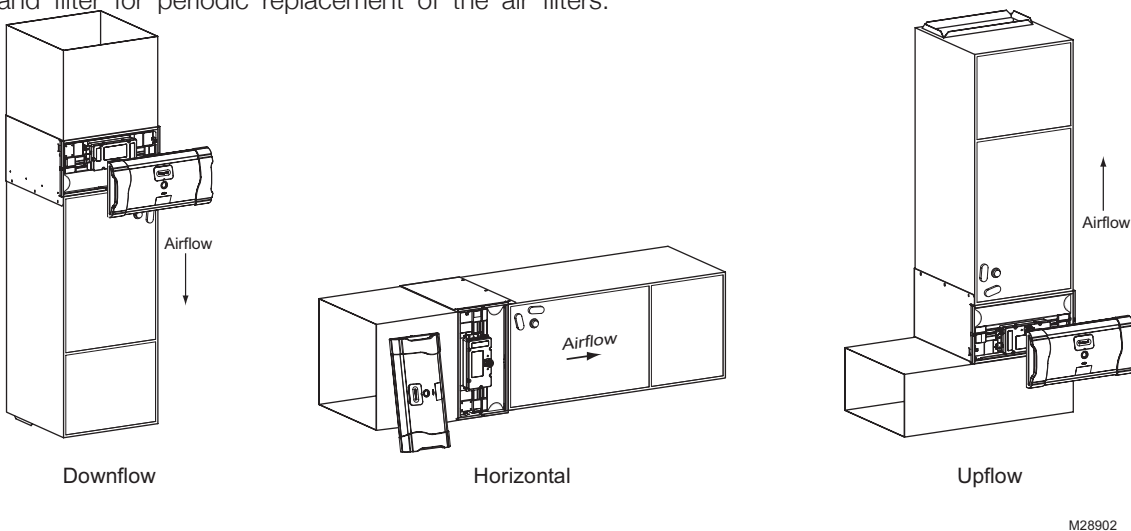
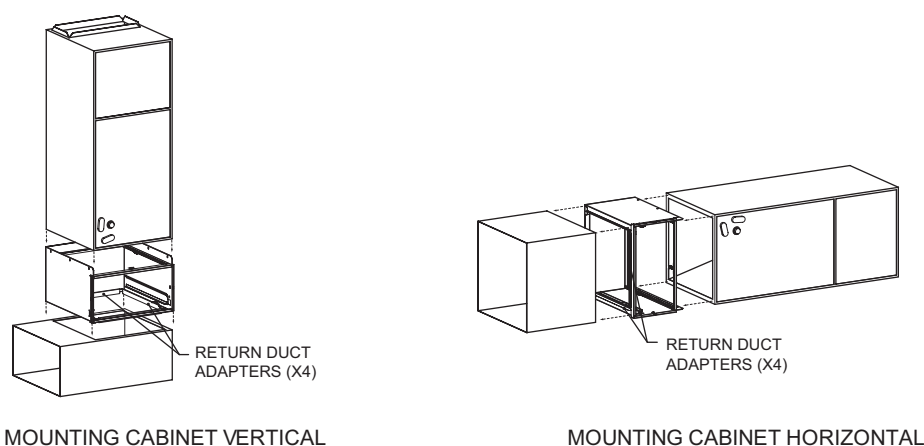

Fig. 4. Cabinet Orientation for 1620/2020/2520 models.
Fig. 5. Orientation for 1620/2020/2520 models for Air Handlers.
- Identify a mounting orientation for the Honeywell Enhanced Air Cleaner in the return air duct (see Fig. 4).
- d. Position the cabinet between the air handler and return air duct (see Fig. 4 on page 7 and Fig. 5). A transition duct may be required.